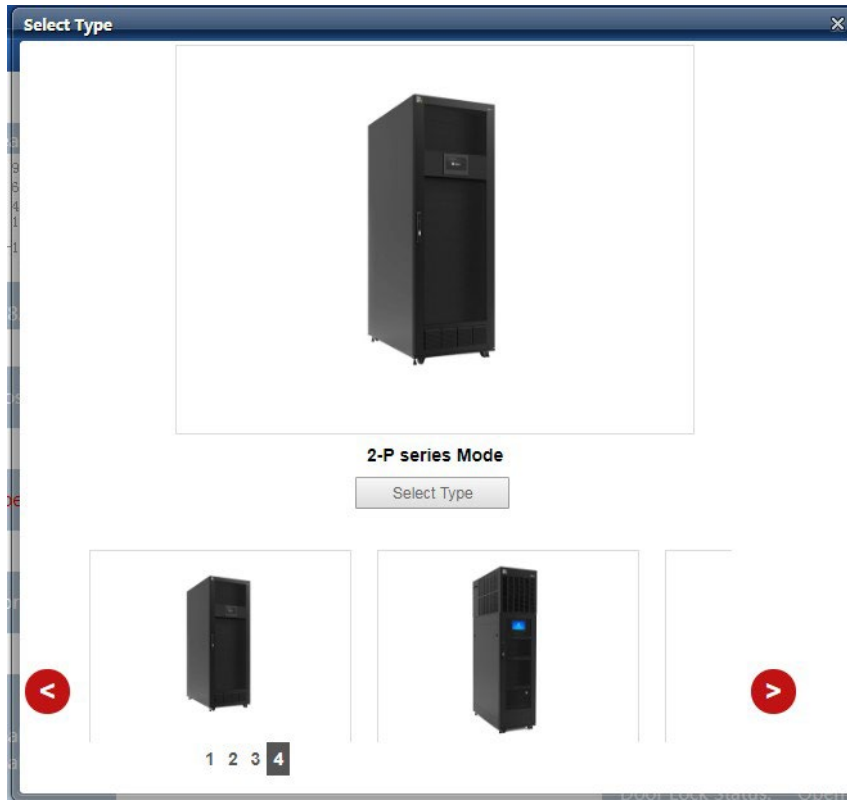

Figure 3-32 Set Background
- Click the Select button models, pop-up page shown in Figure 3-32.